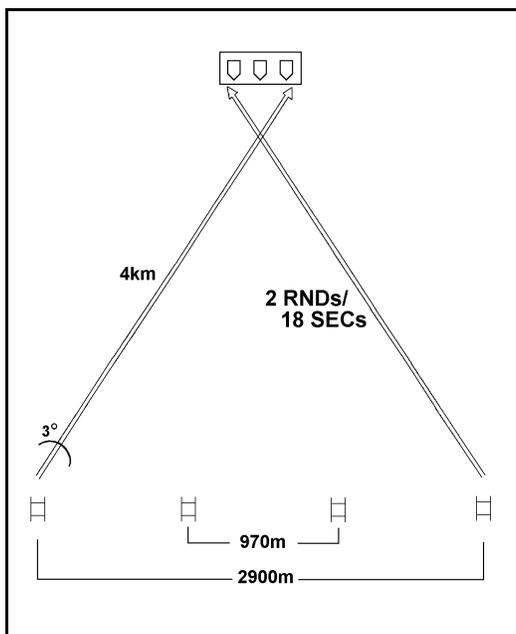

Fig. 1
• **Engaging the CRP.** (See Fig. 1.)